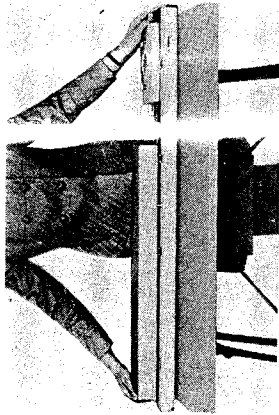

Fig. 1
1. Place your knitter on the edge of any firm and flat table, with the name plate on top away from you. (See Fig. 1)